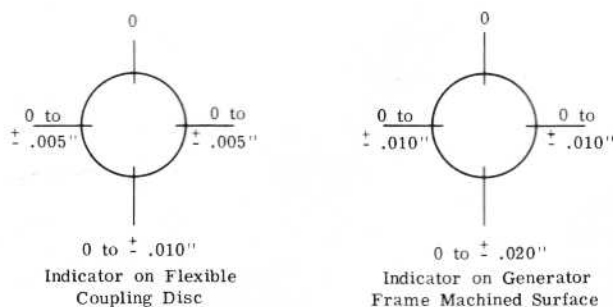

Fig. 20 - Dial Indicator Tolerances
- e. The generator alignment is considered satisfactory when the indicator readings are to or within the indicator tolerances given in Fig. 20. To accomplish this condition will likely require slight relocation and/or shim adjustment under the generator supports. Full length shims should be used if possible, however, spot shims may be used to conform to the limits given. Since any movement of the generator frame affects both the air gap and the coupling, readings must be taken following any correction. Also, the bearing thrust dimension should be carefully rechecked after final coupling alignment to be sure that it is still within the limits given in Item 1.